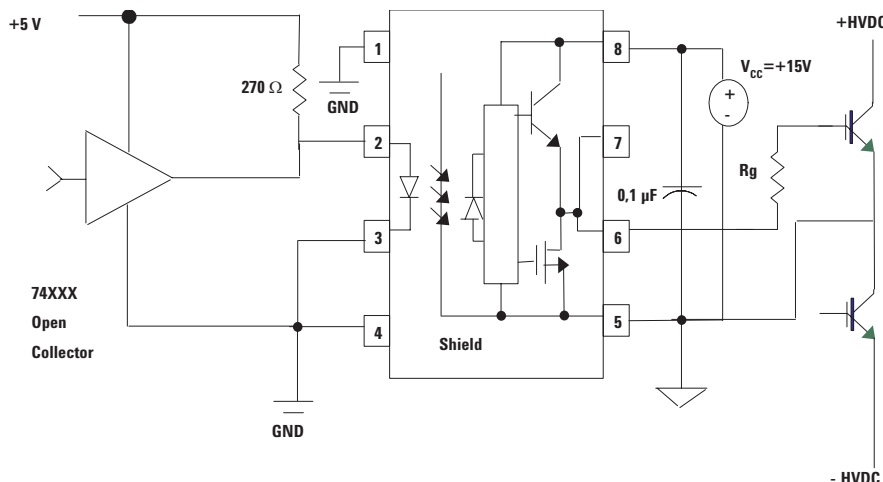
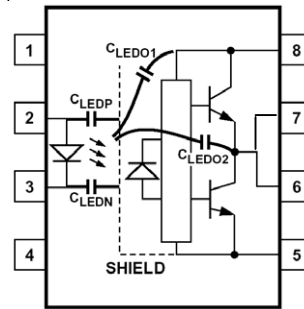
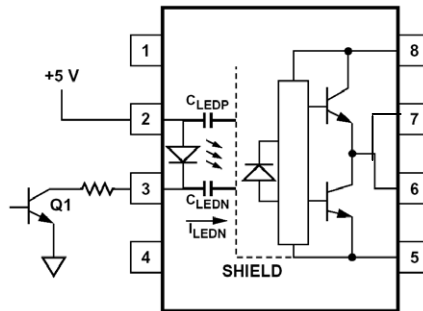
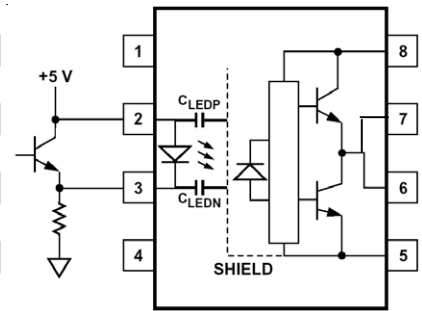

Figure 25. Recommended LED Drive and Application Circuit for HCPL-3180
Figure 30. Optocoupler Input to Output Capacitance Model for Shielded Optocouplers.
Figure 32. Not Recommended Open Collector Drive Circuit.
Figure 33. Recommended LED Drive Circuit for Ultra-High CMR
To keep the IGBT firmly off, the HCPL-3180 has a very low maximum  $V_{OL}$  specification of 0.4 V. The HCPL-3180 realizes the very low  $V_{OL}$  by using a DMOS transistor with 1 W (typical) on resistance in its pull down circuit. When the HCPL-3180 is in the low state, the IGBT gate is shorted to the emitter by  $R_g + 1$  W. Minimizing  $R_g$  and the lead inductance from the HCPL-3180 to the IGBT gate and emitter (possibly by mounting HCPL-3180 on a small PC board directly above the IGBT) can eliminate the need for negative IGBT gate drive in many applications as shown in Figure 25. Care should be taken with such a PC board design to avoid routing the IGBT collector or emitter traces close to the HCPL-3180 input as this can result in unwanted coupling of transient signals into the input of HCPL-3180 and degrade performance.
**Step 1:** Calculate  $R_g$  minimum from the  $I_{OL}$  peak specification. The IGBT and  $R_g$  in Figure 25 can be analyzed as a simple RC circuit with a voltage supplied by the HCPL-3180.
For the circuit in Figure 25 with the circuit in with  $I_F$  (worst
performance by using a detector IC with an optically transparent Faraday shield, which diverts the capacitively coupled current away from the sensitive IC circuitry. However, this shield does not eliminate the capacitive coupling between the LED and optocoupler pins 5-8 as shown in Figure 30. This capacitive coupling causes perturbations in the LED current during common mode transients and becomes the major source of CMR failures for a shielded optocoupler. The main design objective of a high CMR LED drive circuit becomes keeping the LED in the proper state (on or off) during common mode transients. For example, the recommended application circuit (Figure 25), can achieve 10 kV/us CMR while minimizing component complexity.
The open collector drive circuit, shown in Figure 32, cannot keep the LED off during a  $+dV_{CM}/dt$  transient, since all the current flowing through  $C_{LEDN}$  must be supplied by the LED, and it is not recommended for applications requiring ultra high  $CMR_L$  performance. Figure 33 is an alternative drive circuit, which like the recommended application circuit (Figure 25), does achieve ultra high CMR performance by shunting the LED in the off state.